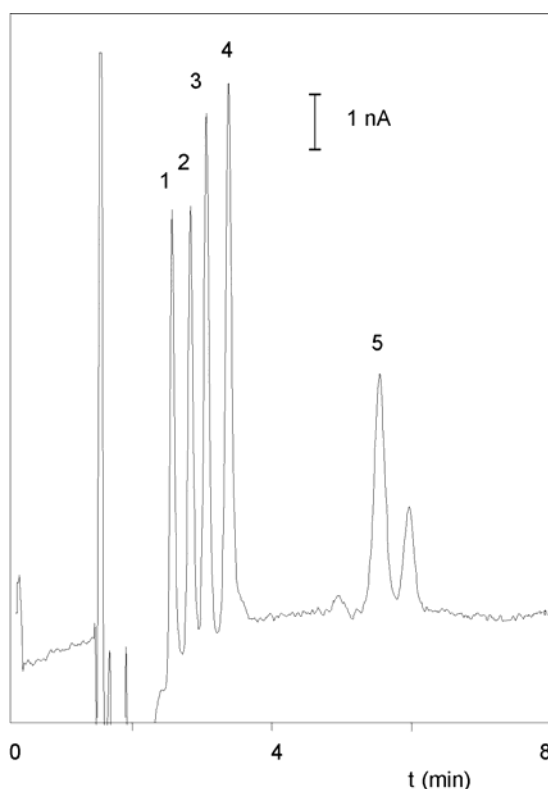

Fig. 17. Pulsed amperometric detection of 100 nmol/l (2 pmol) carbohydrates. Peaks are: sucrose (1), galactose (2), glucose (3), α -lactose (4) and maltose (5).
Several advanced features are implemented in the DECADE. One of these features is the so-called pulse mode. In pulsed amperometric detection (PAD) the working electrode (WE) is regenerated at a frequency of 0.5 - 3 Hz by the application of a series of potential changes. This is particularly useful for certain applications where the working electrode is rapidly fouled due to adsorption of insoluble reaction products. A well-known application area of PAD is the analysis of carbohydrates (Fig. 17) [1].
Examples of carbohydrate analyses are given in Fig. 17. Typical PAD pulse settings are given in Table X and Table XI, these settings may be used as starting point for further optimisation. Carbohydrates are oxidised at a pH of 12 or higher, which puts specific demands on the HPLC system used (see above).